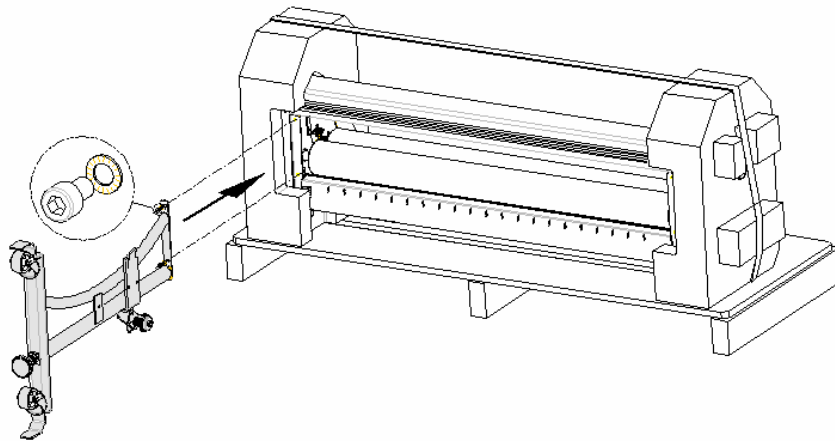

Figure 2
3. Mount the LH-side part of the stand as shown in next figure. (The LH-part is recognizable by a spring utility on the bracket.) Use two serrated washers and two socket screws M6x16 (see fig.2)